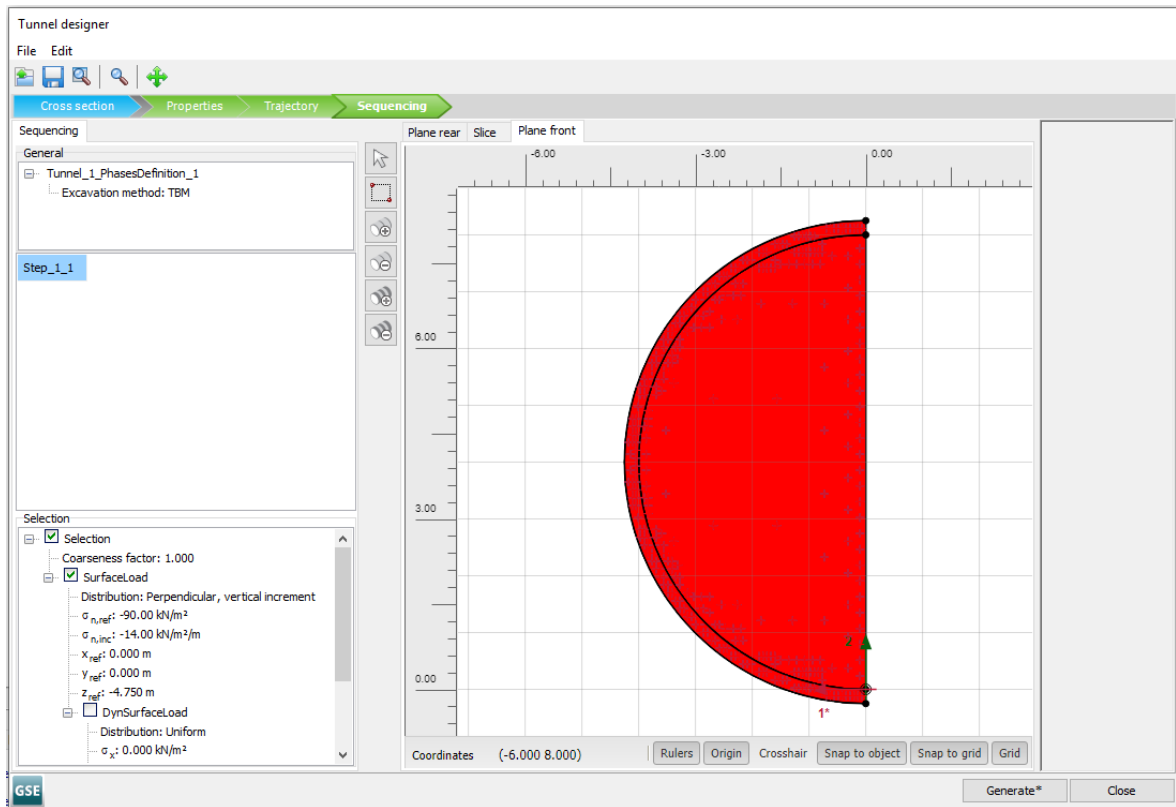

Figure 69: Plane Front tab in the **Tunnel designer** for Step_1_1
- Go to the **Plane Front** tab and select all the surfaces. Activate the surface load corresponding to the face pressure (Figure 69 (on page 96)).